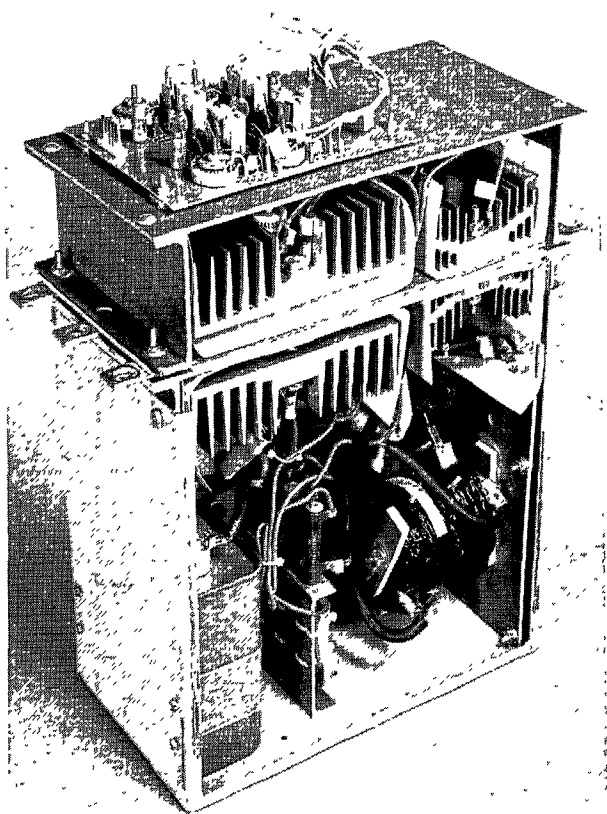

FIGURE 24
2. Stand the phase module on its back side on a table. The pulse transformer printed circuit card should be on top. (Normally on the front of the inverter phase module). See Fig. 24.